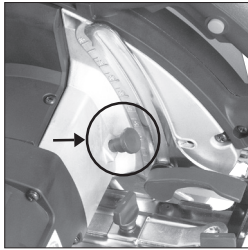

Fig. 4
- Press the arbor lock button to lock the arbor. **(Fig. 4)**